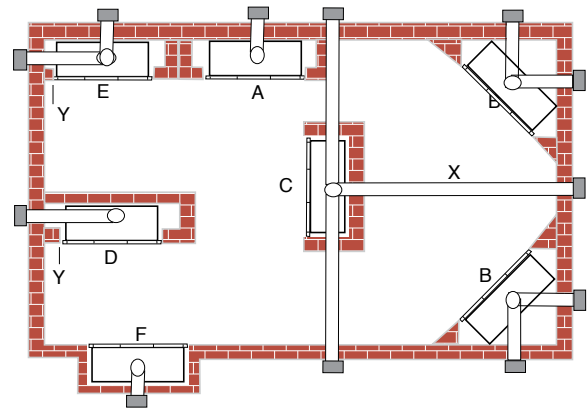

Figure 3 - Possible Fireplace Locations
- This fireplace may be installed along a wall, across a corner, or use an exterior chase. See *Figure 3* for suggested locations.